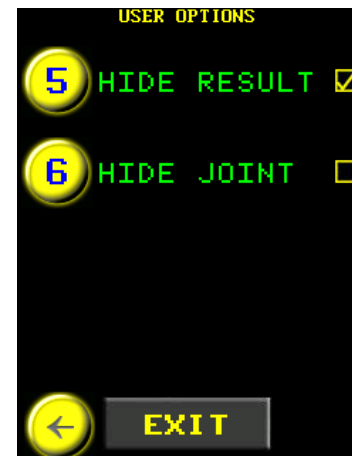

Figure 5.6-2: User Options Menu
3. Select “Hide Result” to toggle the option on or off (Figure 5.6-2).